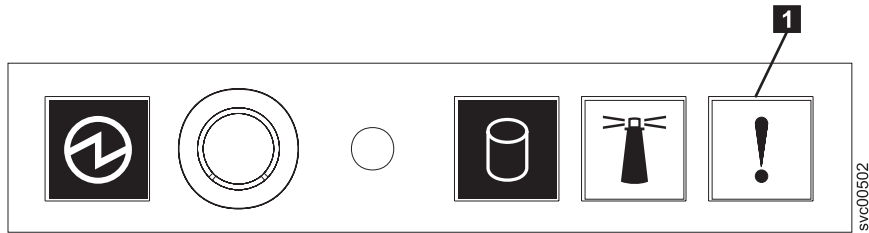

Figure 88. SAN Volume Controller 2145-8A4 operator-information panel
1. **Is the Error LED, shown in Figure 88 on page 398, on the SAN Volume Controller 2145-8A4 operator-information panel on or flashing?**